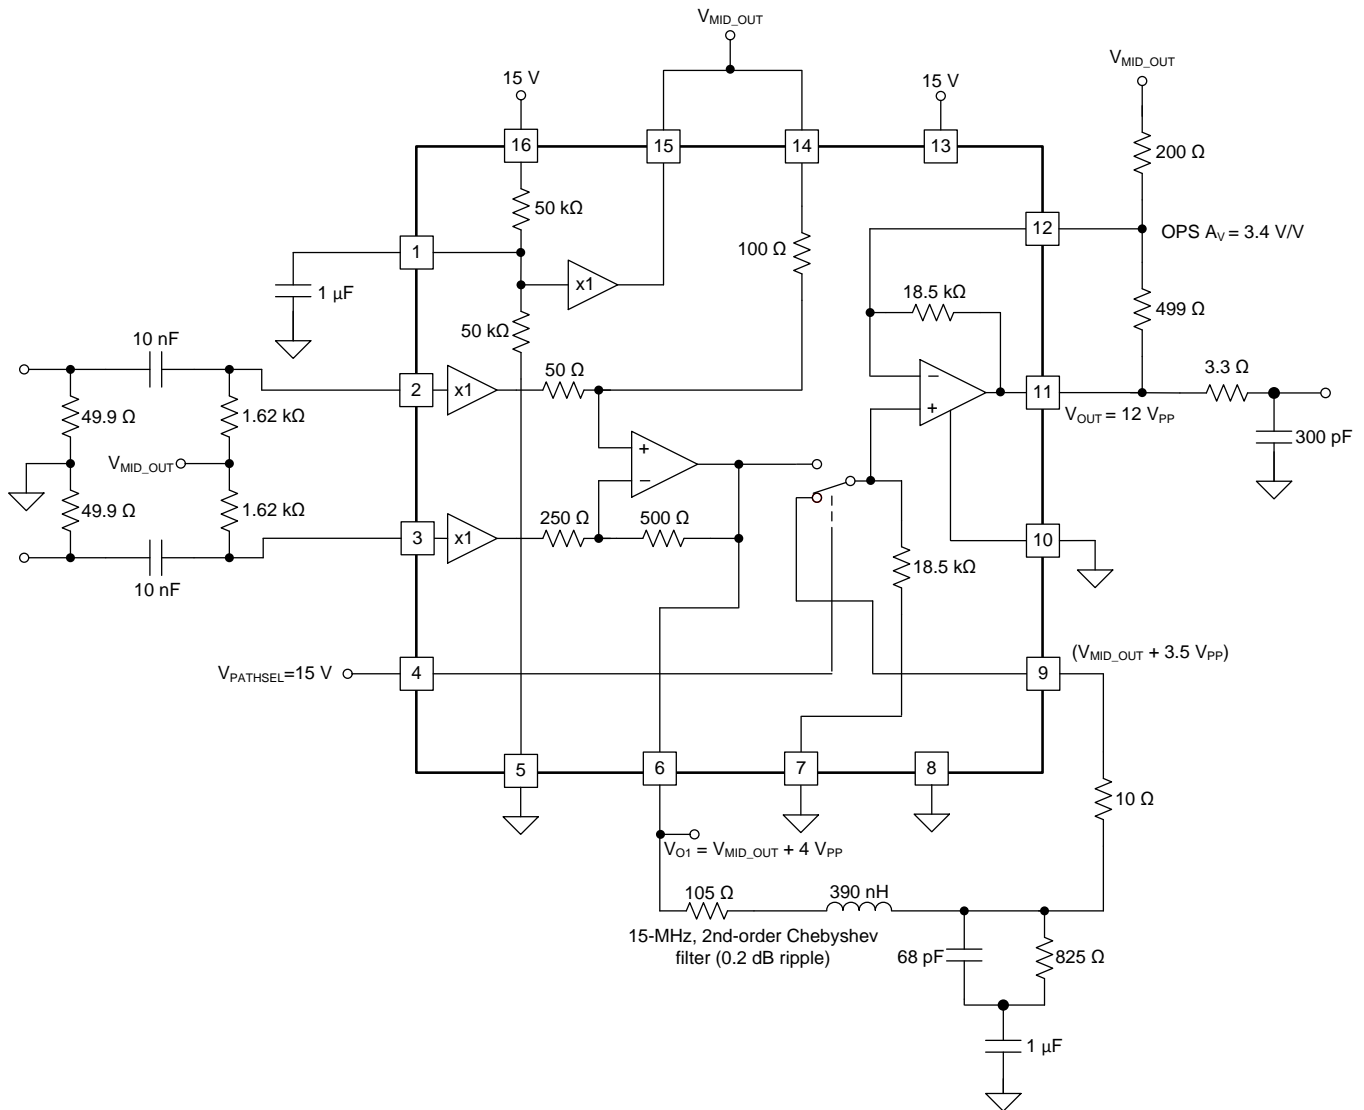

Figure 103. Single-Supply, Heavy Capacitive-Load Driving
The very-high peak output current and slew rate of the THS3217 OPS make it particularly suitable for driving heavy capacitive loads, such as the piezo elements used in continuous wave (CW) applications that require high-amplitude, sinusoidal-type excitations. The driver is quickly disabled during the receive time when the output TR switch is moved to receive mode. Figure 103 shows an example design using the internal midscale buffer to bias all the stages to midsupply on a single 15-V design. There are many elements to this example that also apply to any single-supply application. The key points here are:
5. The filter in Figure 103 is a 0.2-dB ripple, second-order Chebyshev filter at 15 MHz. If the desired maximum frequency is 12 MHz, for instance, this filter is attenuating the HD2 and HD3 out of the D2S by approximately 3 dB and 5 dB, respectively. Increased attenuation can be provided with higher-order filters, but this simple filter does a good job of band-limiting the high-frequency noise from the D2S outputs before the noise gets into the OPS stage.
8. The  $R_G$  element can be ac coupled to ground through a capacitor to operate at midsupply. Figure 103 shows the midscale buffer driving  $R_G$ , thus eliminating the need for an added capacitor. Using a blocking capacitor moves the dc gain to 1 V/V. The voltage on the external, noninverting input of the OPS sets the dc operating point. Use of a blocking capacitor also lightens the load on the midscale buffer output, and eliminates the bias on  $R_G$  when the OPS is disabled.